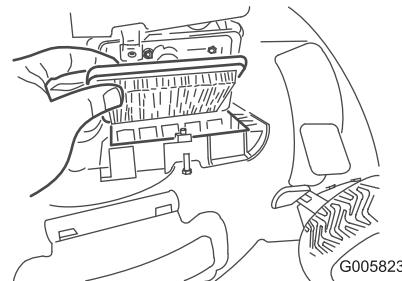

Figure 20
- Use a screw driver to open the air-filter cover (Figure 20).